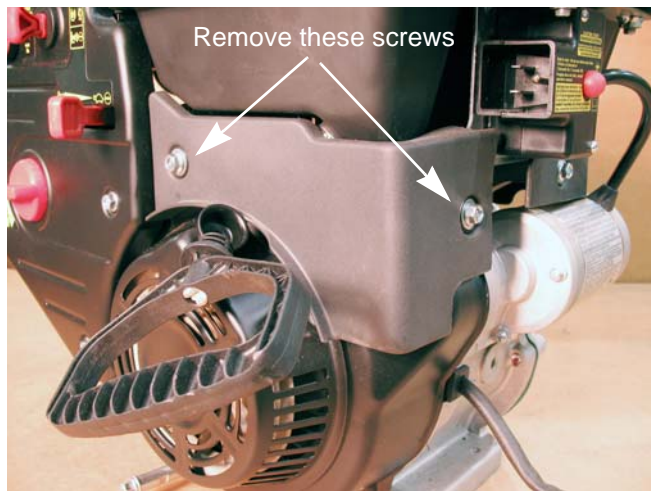

Figure 3.3
- 3a. Remove the fuel tank front bezel using a 10 mm wrench. See Figure 3.3.